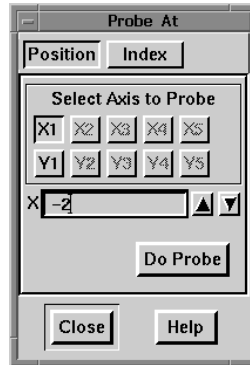

Figure 26-6. The Probe At dialog for XY-plots.
2. Click Tool Details on the sidebar. The Probe At dialog appears as shown in Figure 26-6.